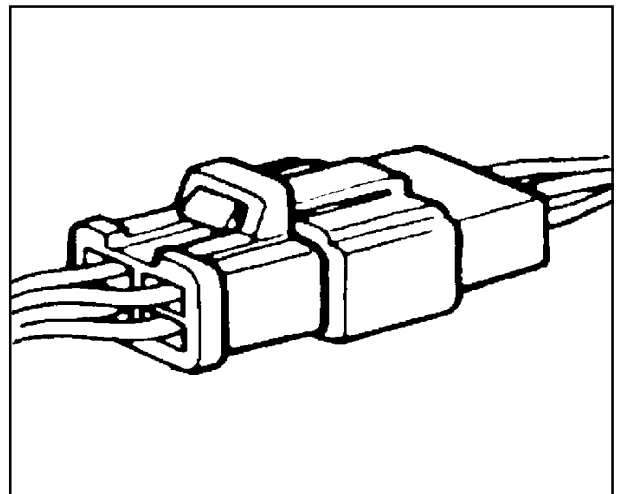

Fig. 8
- Do not touch the electrical terminals of parts which use microcomputers (e.g. electronic control units like ECM etc.) to avoid damage to these parts from static electricity from your body (Fig. 8)
properly and terminals seating precisely in the connector body (Fig. 8)